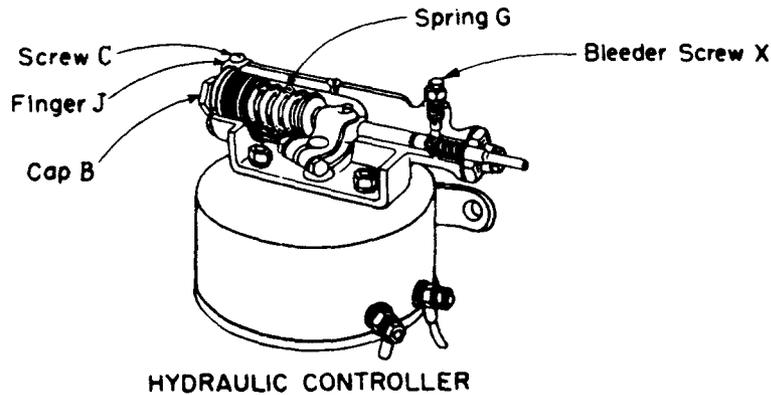

Fig. 1
5.04 Never remove the bleeder screw X on the controller (see Figure 1) except when bleeding the hydraulic system. Bleeding is necessary only after hydraulic connections have been opened or when there is evidence of the presence of air in the system. In bleeding the system, follow the procedure recommended by the vehicle manufacturer and include of course the controller.
9.01 Referring to Figure 1, loosen Screw "C", on top of and near one end of the controller, lift Finger "J" out of notch, unscrew Cap "B" and pull out Spring "G". Insert replacing